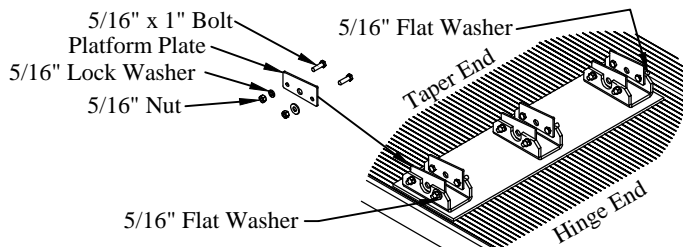

Figure 6: Platform plate location.
7. **Install** the platform plates on the platform with the provided 5/16" x 1" bolts, lock washers, and nuts. The wide end goes toward the platform hinge. Note the location of the two (2) flat washers in place of lock washers (Figure 6).